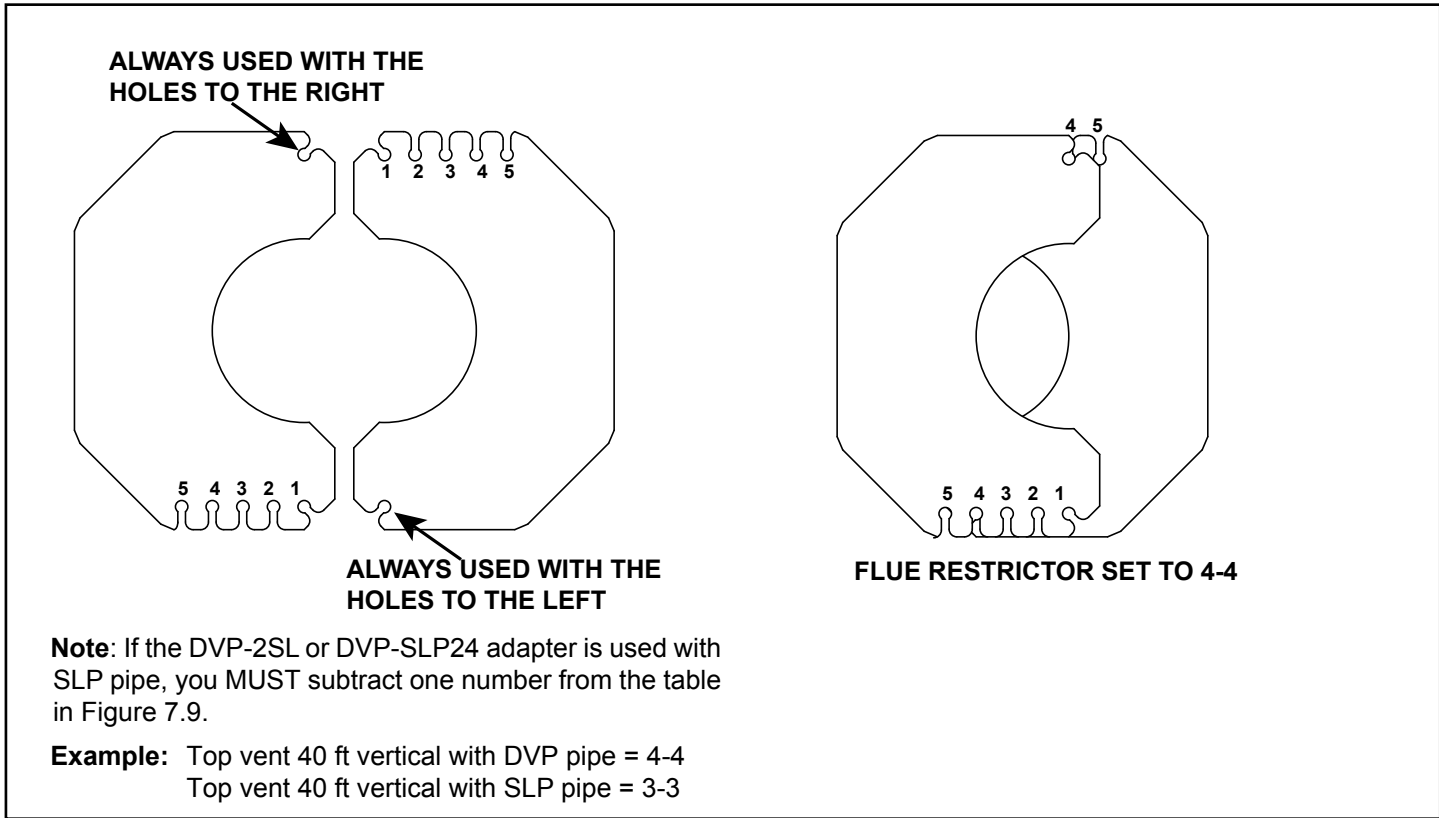

Figure 4.15. Setting the Flue Restrictor
- 2. Match the amount of vertical you have in the system with the chart to find the appropriate position to set the flue restrictor. See Figure 4.15 and Table 4.1.